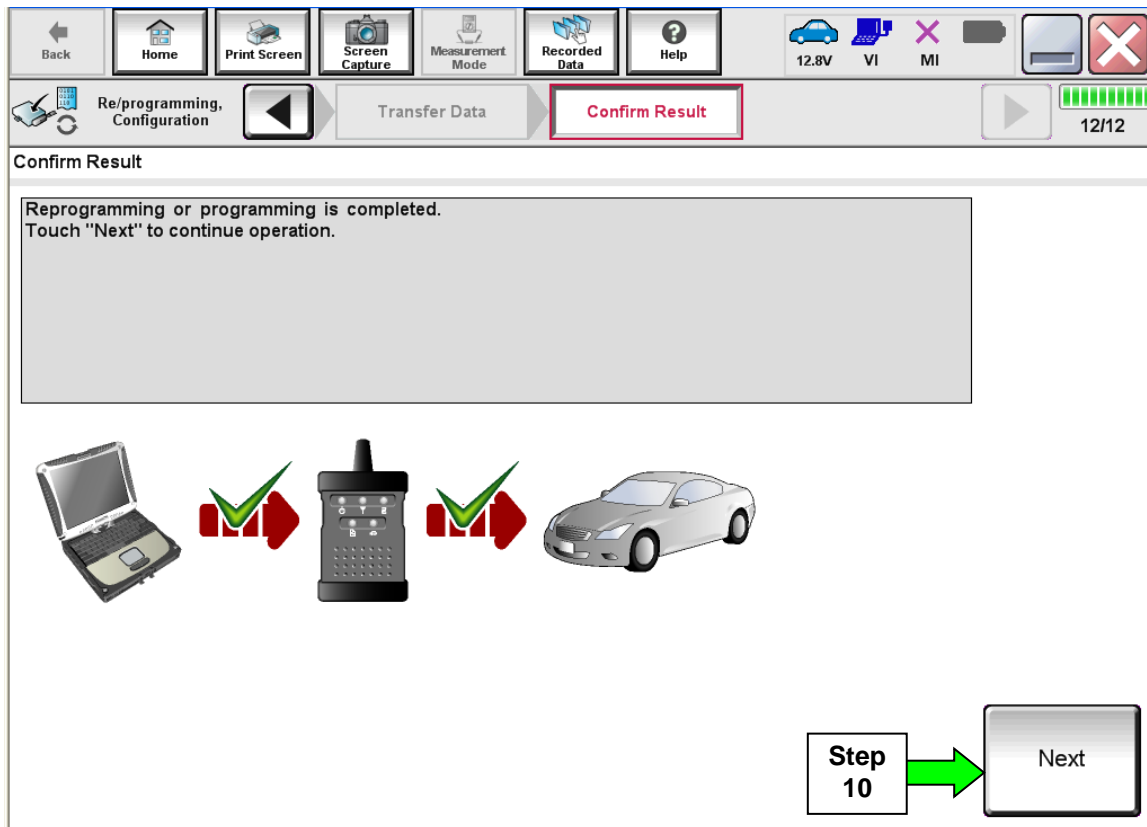

Figure 5
9. When the screen in Figure 5 displays, reprogramming is complete.
NOTE: If the screen in Figure 5 does not display (indicating that reprogramming did not complete), refer to TCM Recovery on the next page.